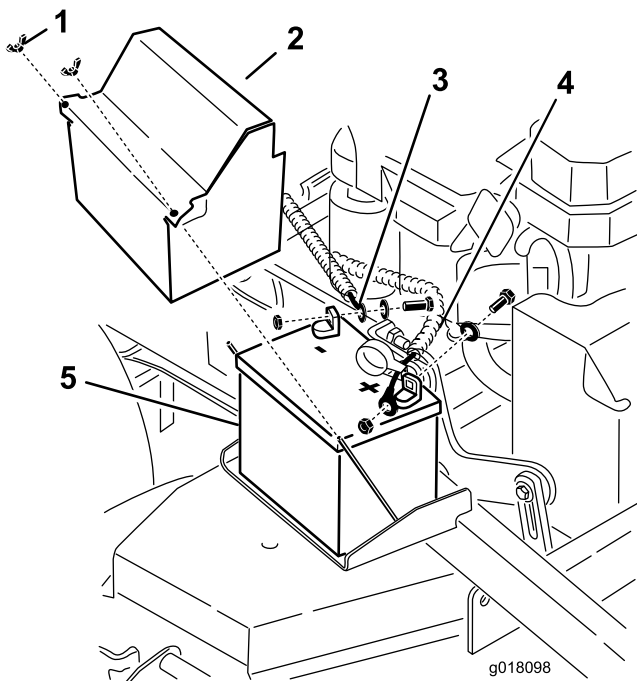

Figure 53
4. Disconnect the negative battery cable from the negative (-) battery terminal (Figure 53).
6. Remove the positive (red) battery cable (Figure 53).
7. Remove the battery hold down plate (Figure 53), and remove the battery.
1. Place the battery onto the machine (Figure 53).
3. Install the positive (red) battery cable to positive (+) battery terminal with a nut, a washer, and a bolt (Figure 53).
5. Install the negative battery cable and the ground wire to the negative (-) battery terminal with a nut, a washer, and a bolt (Figure 53).